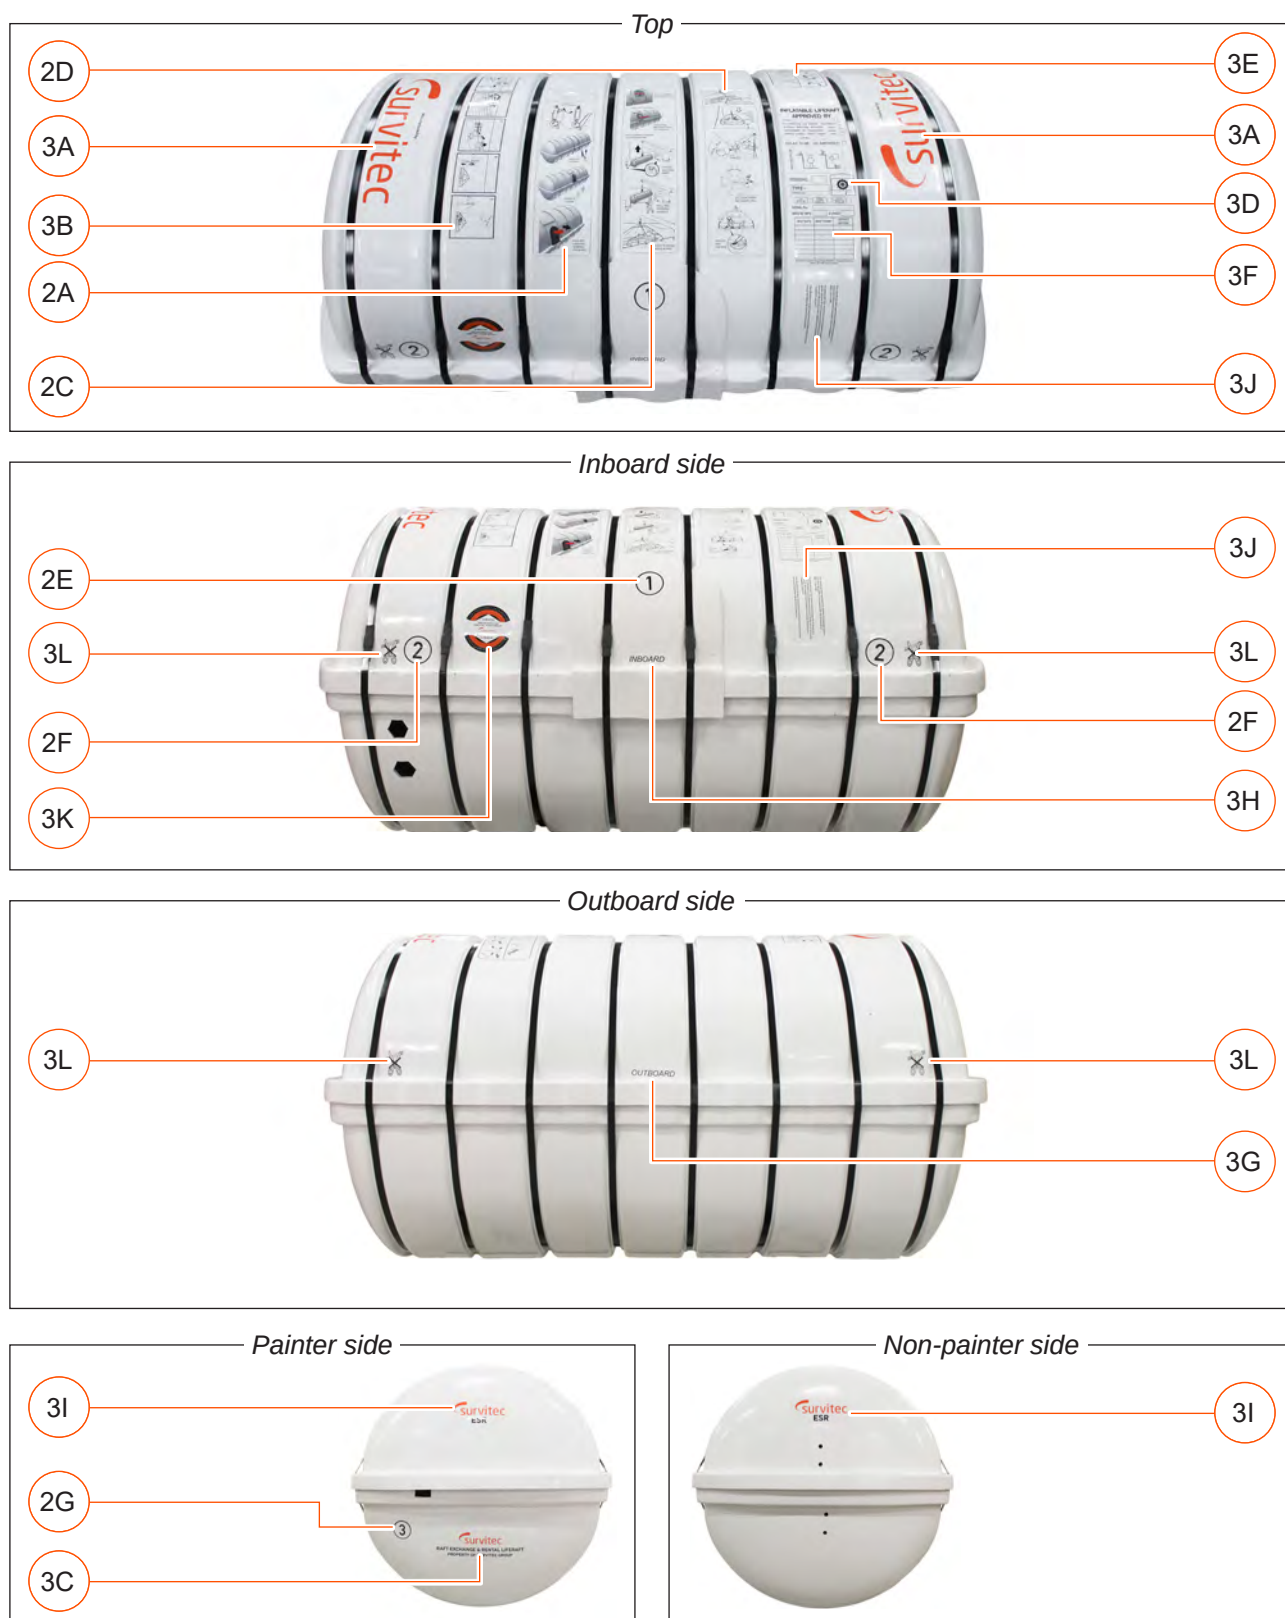

Figure 28
- Mk 14 size 17. Refer to **Figure 28** for label positions.